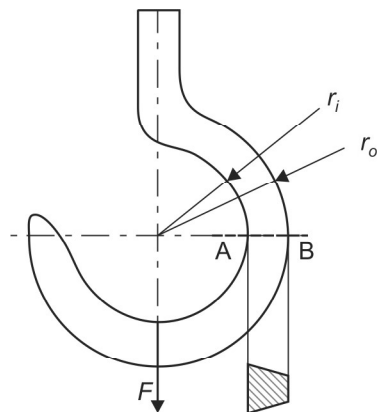

Fig. M1.28
- b. The parallel sides of a trapezoidal cross-section of a crane hook of capacity 50 kN are 100 mm and 60 mm, the depth of the section being 120 mm. The radius of curvature of the inner fiber is 150 mm as shown in Fig. M1.28. Determine the stresses at the extreme fibers of the cross-section of the hook. **(15 Marks)**